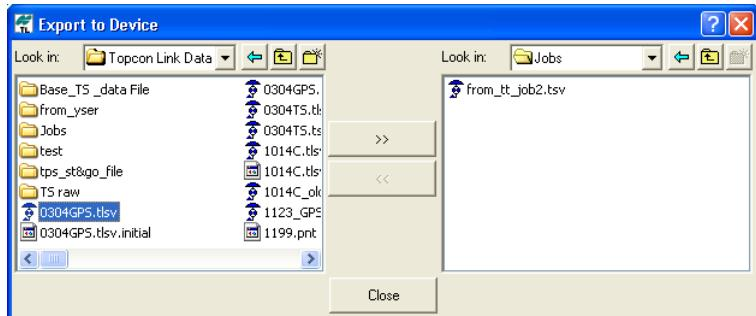

Figure 2-45. Export of the desired data to Device
- Double-click the *Mobile Device* in the right panel of the *Export to Device* dialog box (Figure 2-45). Select the folder in the TPS Controller where the exported file will be saved. In the left panel of the *Export to Device* window, select a file for export. Click the double arrows.